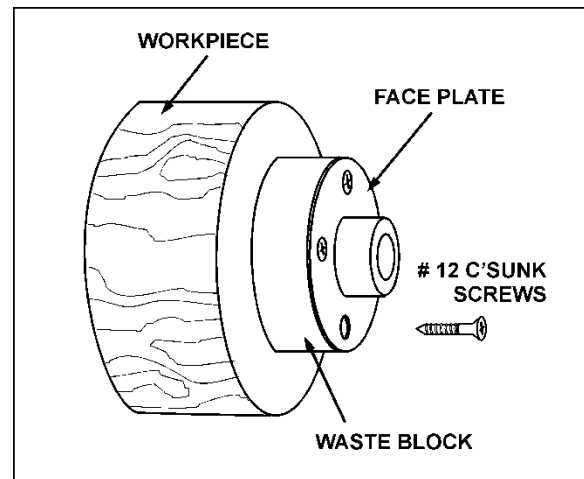

Figure 26
5. Make a block the same diameter as the face plate, Figure 26. Both waste block and workpiece should have flat surfaces for gluing.